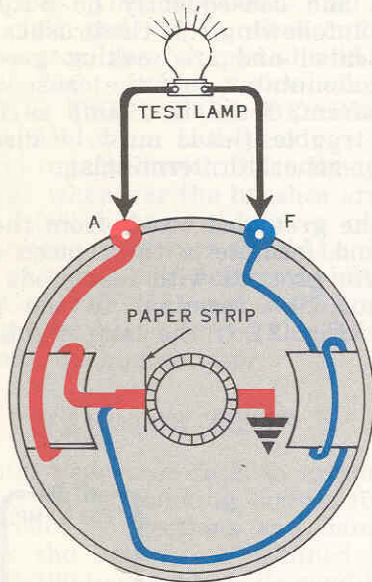

Figure 9—Check for open field coils. On three terminal motor-generators, connect from “F” terminal to “M” terminal with test lamp prods.
2. If the unit is not grounded, check the field for an open circuit (Fig. 9) with a test lamp. The lamp should light when one test point is placed on the field terminal and the other is placed on the armature terminal. On three terminal motor-generators connect test lamp from the field terminal to the motor terminal. (Paper strip between insulated brush and commutator.) If it does not light, the circuit is open. If the open is due to a broken lead or bad connection, it can be repaired but if the open is inside one of the field coils, the coil must be replaced.